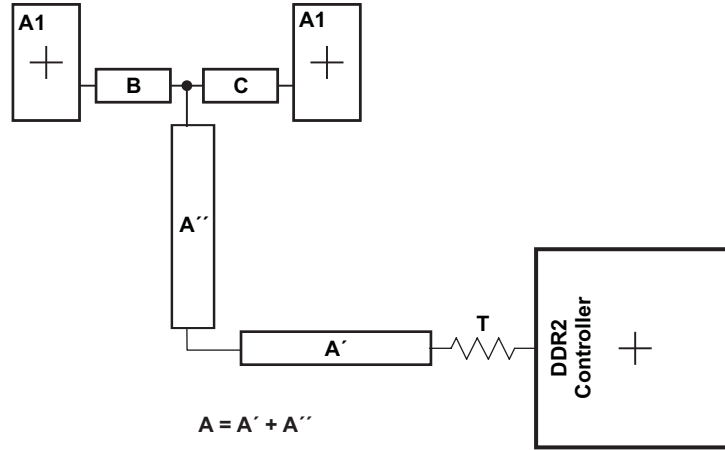

Figure 8-52. CK and ADDR\_CTRL Routing and Topology
Figure 8-52 shows the topology of the routing for the CK and ADDR\_CTRL net classes. The route is a balanced T as it is intended that the length of segments B and C be equal. In addition, the length of A (A'+A'') should be maximized.
- (1) The length of segment A = A' + A'' as shown in Figure 8-52.
- (2) Series terminator, if used, should be located closest to the DSP.
- (3) Center-to-center spacing is allowed to fall to minimum (w) for up to 500 mils of routed length to accommodate BGA escape and routing congestion.
- (4) CACLM is the longest Manhattan distance of the CK and ADDR\_CTRL net classes.